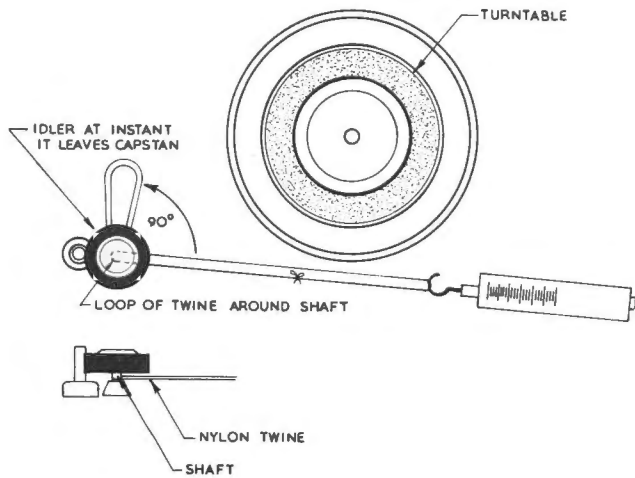

figure 5-8 — Capstan Idler Pressure Measurement Arrangement
- Step 7:** Pull the scale away so that the nylon twine is taut and makes a 90° angle with the idler arm (figure 5-8).